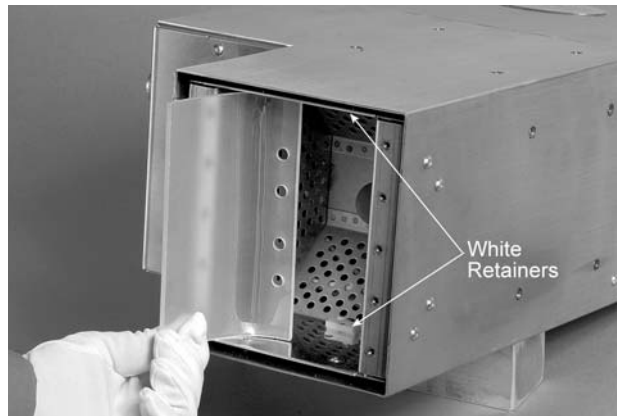

Figure 4-5 Slide the Reflectors Into the Lamp head
1. See Figure 4-5. Slide the focus or flood reflectors into the lamp head with the holes to the inside.